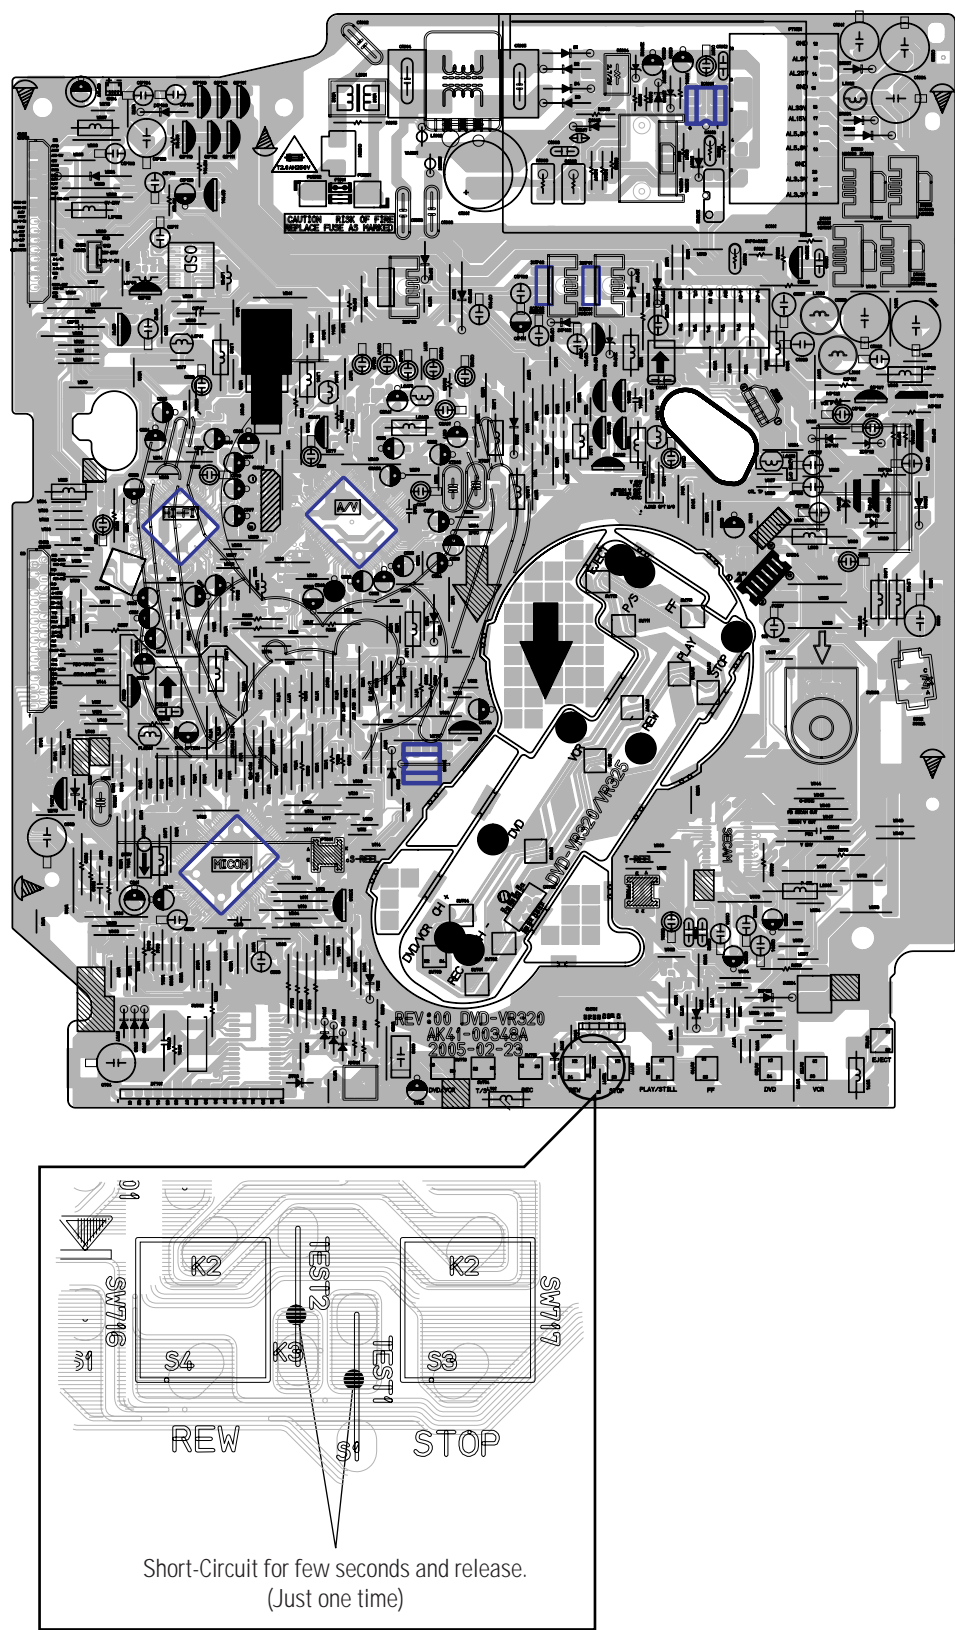

Fig. 4-2 VCR Main PCB (Top View)
- 2) Intermittently short-circuit the two Test Points on VCR Main PCB while setting the adjustment mode. (See Fig. 4-2)
- 1) Intermittently short-circuit the two Test Points on VCR Main PCB. (See Fig. 4-2)
- 2) Intermittently short-circuit the two Test Points on VCR Main PCB. (See Fig. 4-2)